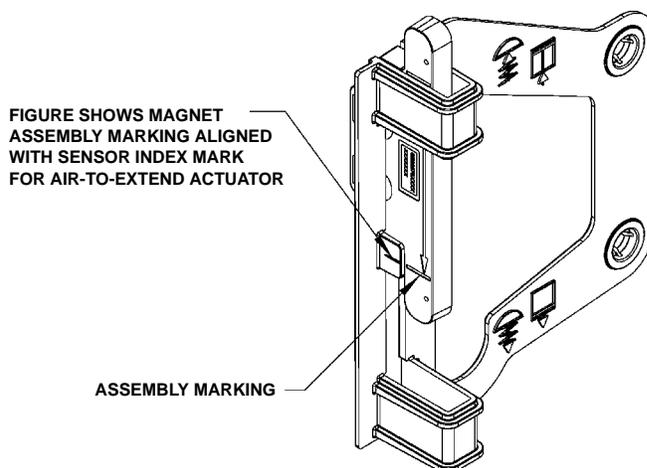

Figure 2. Alignment Template
8. For an air-to-extend actuator, slide the magnet assembly (key 2) so that the bottom marking aligns with the sensor index mark on the alignment template (see figure 2). The top marking of the magnet assembly is used for air-to-retract. The mounting bracket may require vertical repositioning to get the magnet assembly in the correct location. When the magnet assembly is properly positioned, remove the alignment template and tighten the two pan head machine screws (key 6).
9. Attach the digital valve controller to the mounting bracket assembly and tighten the three hex head cap screws (key 9).
10. Check the position of the magnet assembly (key 2) in the channel of the digital valve controller housing and ensure that it is visually centered between the channel walls and has adequate clearance with the backside of the channel (approximately 3 mm).